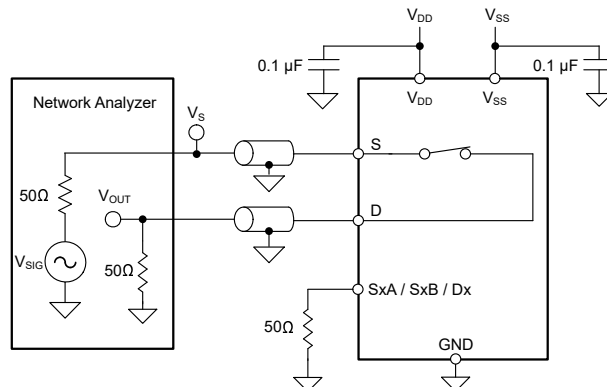

图 6-12. Bandwidth Measurement Setup
Bandwidth is defined as the range of frequencies that are attenuated by less than 3 dB when the input is applied to the source pin (Sx) of an on-channel, and the output is measured at the drain pin (D) of the device. 图 6-12 shows the setup used to measure bandwidth.